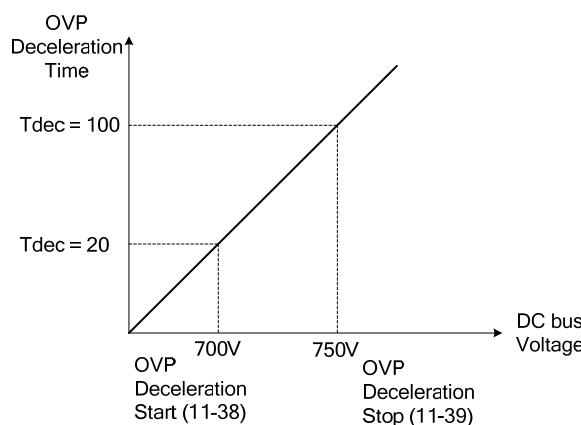

Figure 4.3.92 OVP deceleration time
- (1) DC voltage filter is used to provide a stable reference value for determining the change in DC voltage change during regenerative operation.
- (2) When the inverter is operation at a fixed output frequency, the OVP function will monitor the DC-bus voltage to detect regenerative operation
- When the regenerative energy decreases, the inverter output frequency will return to the actual frequency reference. Deceleration rate is based on the DC voltage, as shown in figure 4.3.92.
- (3) When the inverter is stopped, the deceleration rate can be set with parameter 00-15(Tdec1). In case the DC voltage is too high, the inverter will decelerate based on the OVP deceleration time as shown in figure 4.3.92
- (4) Parameter 11-40 can enable and disable the OVP function, when 11-40=1, some functions will go back to default setting.
The process of OV prevention mode 2 is the same as that of OV prevention mode 1 but it strengthens more the part of DC BUS over the deceleration stop voltage of OV prevention (11-39) in Fig.4.3.92. It can accelerate frequency compensation to avoid OV protection by increasing frequency gain of OV prevention 2 (11-28).